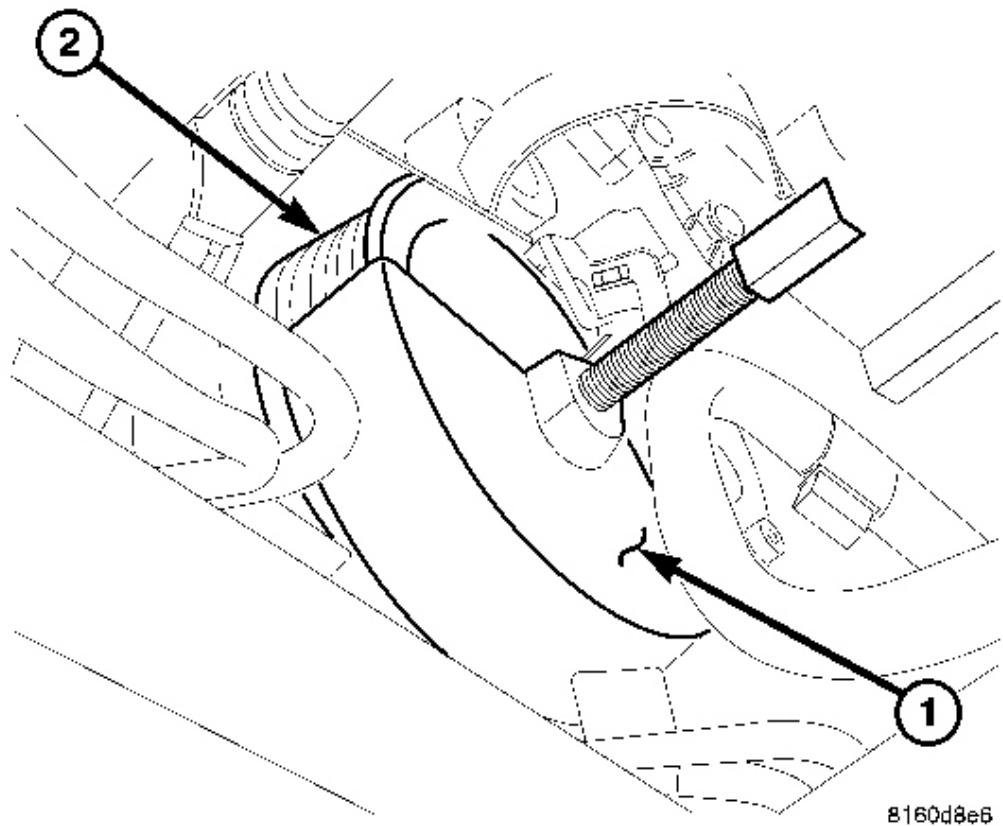

Fig. 290: Special Tool #9544 & Vibration Damper
9. Install special tool #9544 (1) vibration damper puller. See **Fig. 290**.
10. Remove the vibration damper (2).